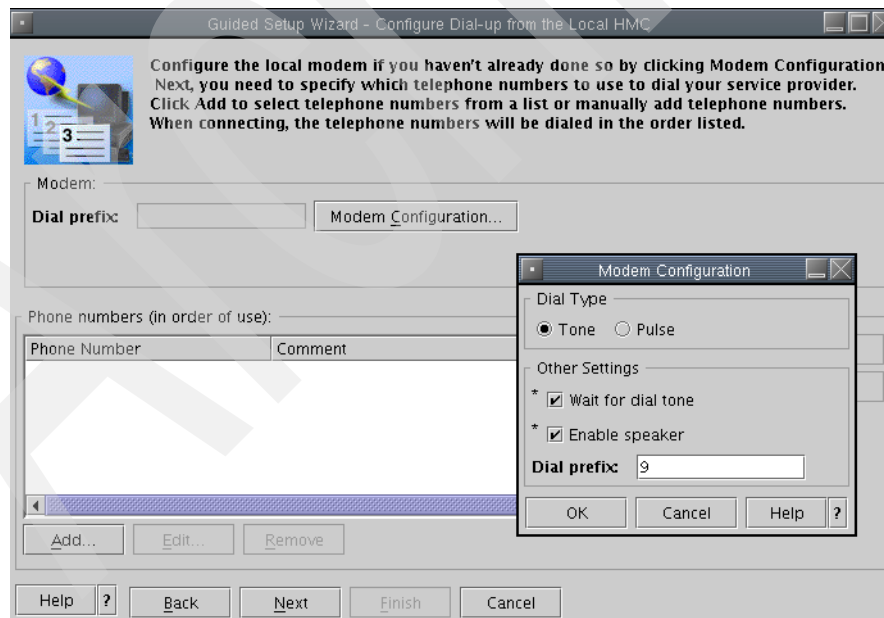

Figure 4-34 Guided Setup wizard - Dial-up connection configuration
33. The Guided Setup Wizard - Configure Dial-up from the Local HMC panel is now displayed (see Figure 4-34).
In the modem panel, click the **Modem Configuration** button to set the modem parameters. You can set the Dial Type (Tone/Pulse), Wait for dial tone, Enable speaker, and the Dial prefix values (see the Modem Configuration window in Figure 4-34).